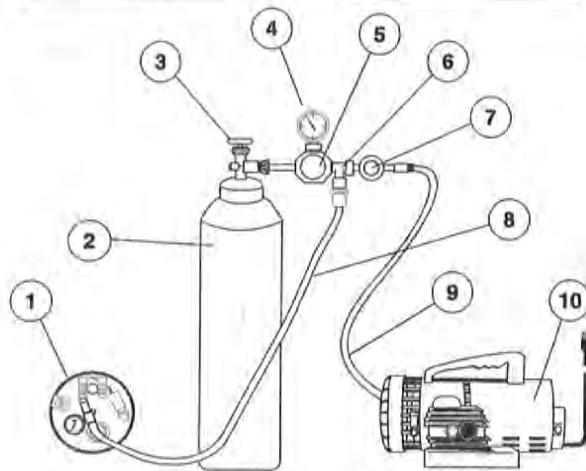
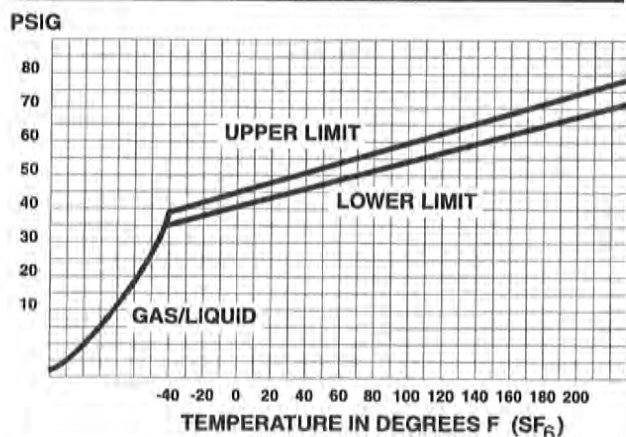

FIGURE 5-1:
FIGURE 5-2:
The following paragraphs describe the general maintenance procedures to be completed periodically on the Tube Head Assembly. Outlined below are the steps for "Re-pressurizing", and "Re-filling" the Tube Head with Sulfur Hexafluoride gas, and the conditions under which each are performed. A "Temperature Compensation" chart is provided for use as a reference while conducting these tasks (Figure 5-2).
This x-ray unit can be safely operated at Tube Head pressures as low as 50 psi @ 70°F. Should the Tube Head pressure fall below this value (as indicated on the pressure gauge), the Tube Head will need re-pressurizing. Following the procedures outlined below, the Tube Head can be re-pressurized between 50 and 55 psi with dry Sulfur Hexafluoride gas at 70°F through the charging valve (automobile tire type) located on the back of the Tube Head assembly. Use a hose incorporated with a relief valve or pressure regulator, and a gauge having an accuracy of at least ± 4 psi. Figure 5-1 and Figure 5-2 can be used as references while performing these procedures.
Connect the Tube Head (1) to the Regulator assembly (6) using the hose (8), as shown in Figure 5-1. Leave the SF₆ cylinder closed at this time. For this procedure, hose (9), and pump (10) are not required.
The Tube Head will begin filling with SF₆. When the Tube Head gauge indicates the correct pressure, close the SF₆ cylinder valve (3). To determine the correct pressure, refer to the "Pressure vs. Temperature" chart (Figure 5-2).
This procedure is used when gas pressure within the Tube Head has dropped below 5 psi @ 70°F, or after major maintenance on the Tube Head has occurred. To re-fill the Tube Head, follow the procedures outlined below while referring to Figure 5-1 and Figure 5-2.
Connect the Vacuum Pump (10) and the Tube Head (1) to the Regulator Assembly (6), using the hoses (8) and (9) as shown in Figure 5-1.
Open the Vacuum Valve and run the pump an additional 10 minutes. Close the Vacuum Line and stop the pump. Open the SF₆ cylinder valve again and fill the Tube Head to the pressure indicated on the "Pressure vs. Temperature" chart (Figure 5-2). When the Tube Head is at the correct pressure, close the SF₆ cylinder Valve.
As shown in Figure 5-2, temperature changes cause SF_6 gas to expand or contract at the rate of 1 psi for every 7°F increase/decrease in ambient air temperature. Allowances for these changes must be made when checking the Tube Head gas pressure, or while re-pressurizing/re-filling the Tube Head. The following graph illustrates the maximum and minimum pressure limitation of the Tube Head at various temperature ranges. This chart is to be used whenever the Tube Head is inspected, re-pressurized, or re-filled.